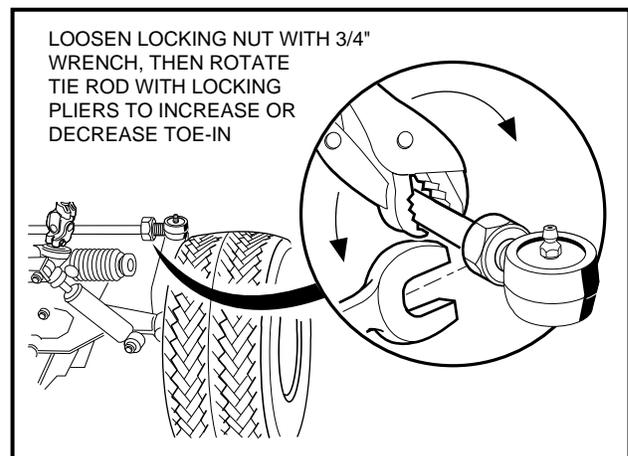

Figure 7-17 Adjust Toe-In
6. If adjustment is necessary, loosen the lock nut on each tie rod ball joint and rotate the tie rod to increase or decrease toe-in (**Figure 7-17**). **See following CAUTION.**